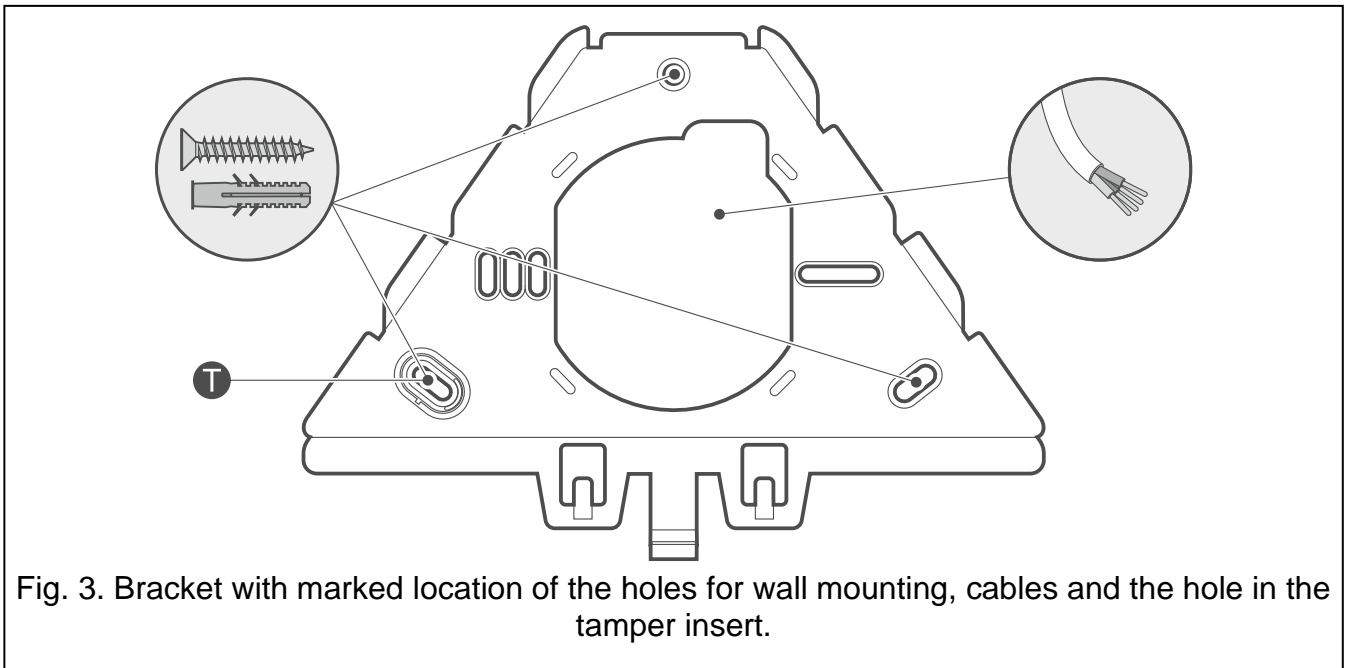

Fig. 3. Bracket with marked location of the holes for wall mounting, cables and the hole in the tamper insert.
- Place the bracket against the wall and mark the location of the mounting holes (Fig. 3) and the hole in the tamper insert (the **T** symbol in Figure 3).
4. Run the cables through the hole in the bracket (Fig. 3).